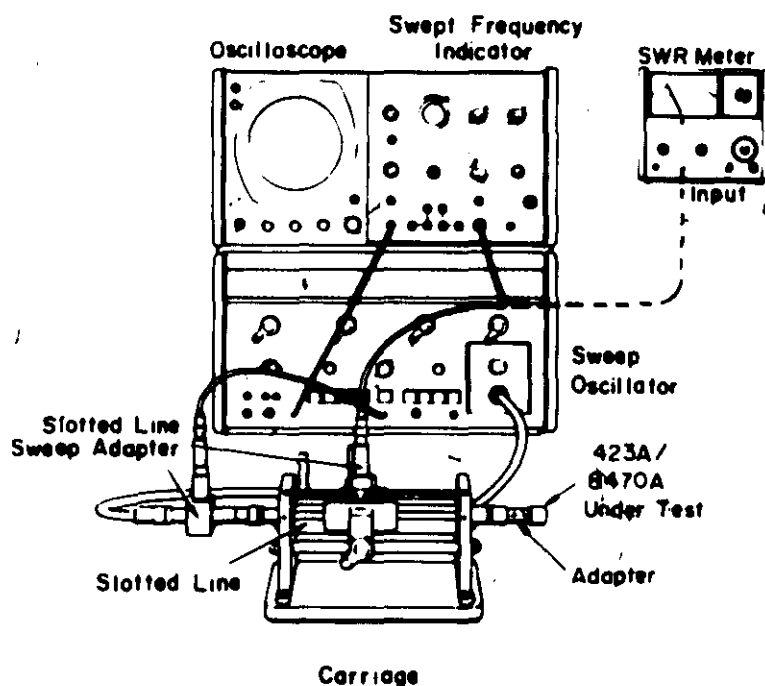

Figure 9. SWR Test Setup
1. Connect the equipment as shown in Figure 9.